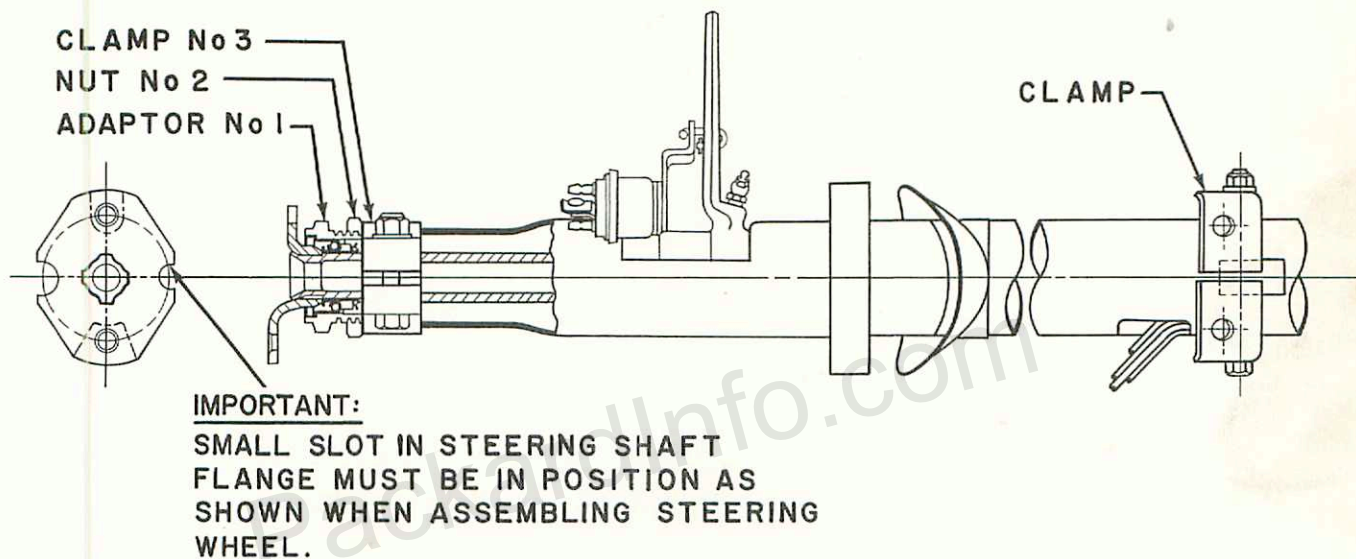

Figure 112—Steering and Shaft Assembly
3. Hold the steering column adapter "1" figure 112. Screw nut "2" against end of column until all